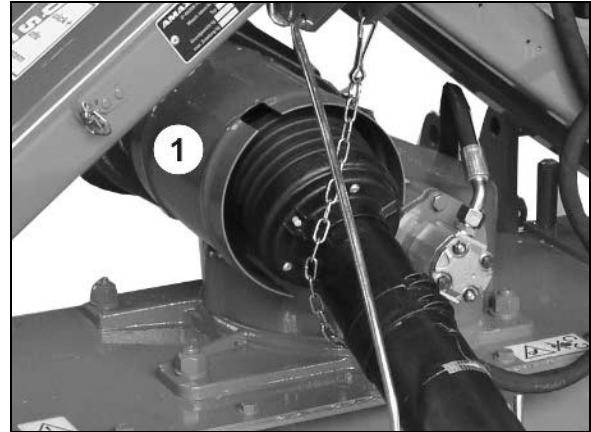

Fig. 23
1. Remove the machine side PTO shaft guard (Fig. 23/1).